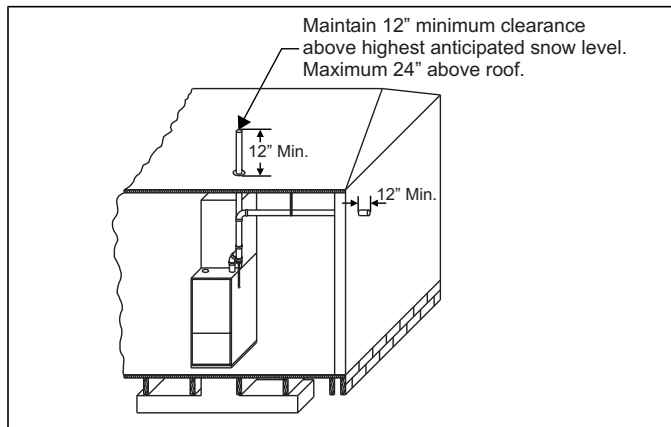
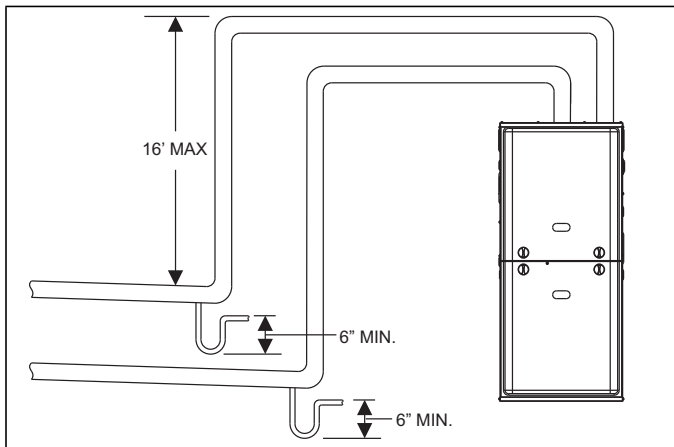
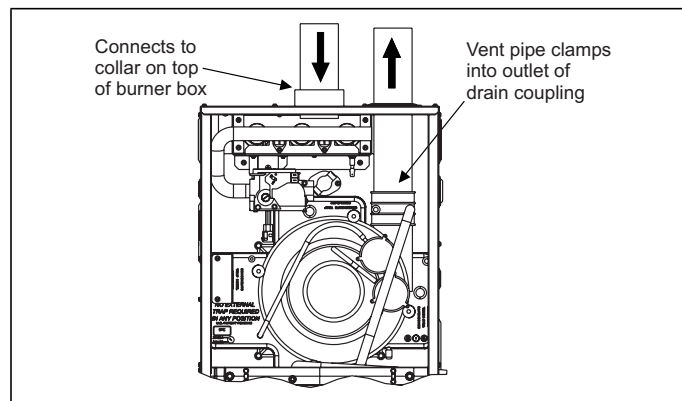
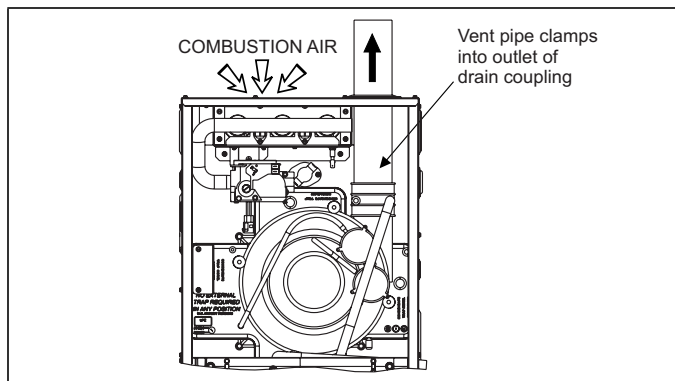

FIGURE 23: Termination Configuration - 1 Pipe
FIGURE 28: Downward Venting
FIGURE 29: Direct Vent Air Intake Connection and Vent Connection
FIGURE 30: Combustion Airflow Path Through The Furnace Casing
The combustion air side of the single pipe configuration shown in Figure 30 is referred to in these instructions as ambient combustion air supply. Follow the instructions for ambient combustion air installations, paying particular attention to the section on air source from inside the building. The vent for a single pipe system must be installed as specified in the venting section of these instructions with both vents terminating as shown in Figure 23. Each furnace must have a separate vent pipe. Under NO circumstances can the two vent pipes be tied together.
1. **OUTDOOR COMBUSTION AIR:** This is a direct vent configuration where the combustion air is supplied through a PVC or ABS pipe that is connected to the PVC coupling attached to the furnace and is terminated in the same atmospheric zone as the vent. This type of installation is approved on all models. Refer to Figure 29.
2. **AMBIENT COMBUSTION AIR:** Combustion air is supplied from the area surrounding the furnace through openings in the furnace casing. The combustion air and the vent pipes are not terminated in the same atmospheric zone. Refer to Figure 23 for vent terminations. Refer to "Ambient Combustion air Supply" for proper installation. Refer to Figures 29 and 30.
This installation requires combustion air to be brought in from outdoors. This requires a properly sized pipe (Shown in Figure 28) that will bring air in from the outdoors to the furnace combustion air intake collar on the burner box. The second pipe (Shown in Figure 29) is the furnace vent pipe.